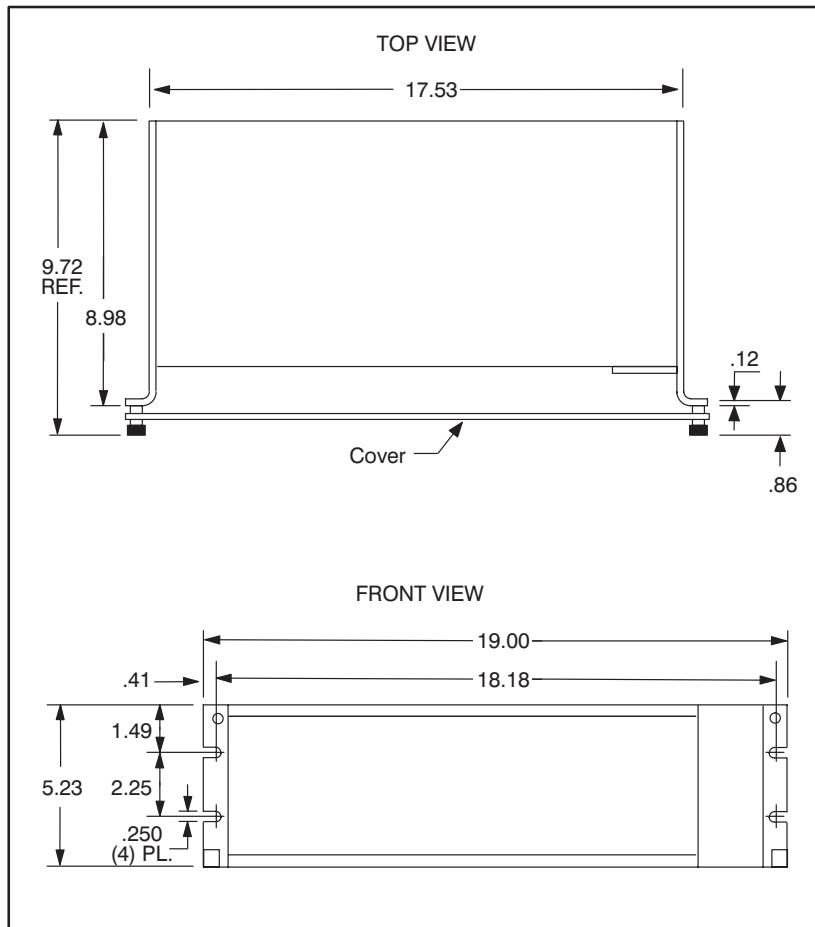

Figure K2.3 - Fiber-Optic Rack Mounting Dimensions
- Step 2. Install the rack using #8 screws. Allow at least 1" to 2" clearance around the rack for adequate ventilation. Rack mounting dimensions are shown in figure K2.3.